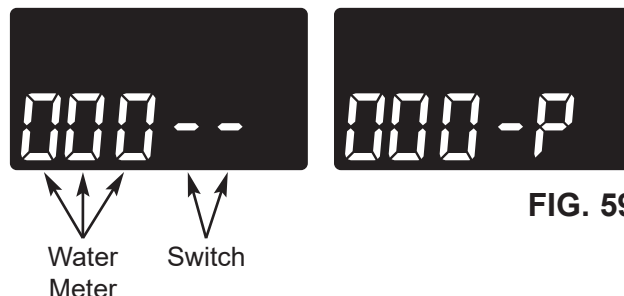

FIG. 59
3. The letter "P" and a dash (or dashes) indicate POSITION switch operation (See Figure 59). If the letter appears, the switch is closed. If the dash shows, the switch is open.